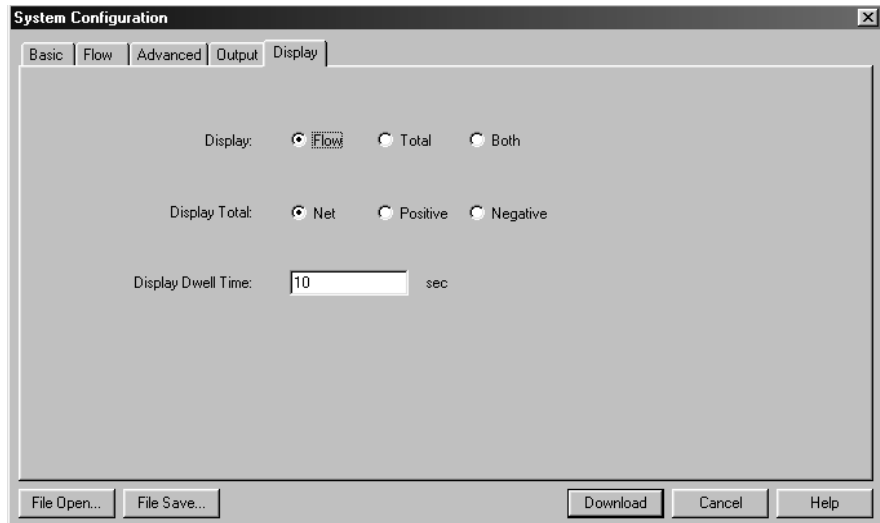

Figure 3.7
5. Display TAB — See Figure 3.7